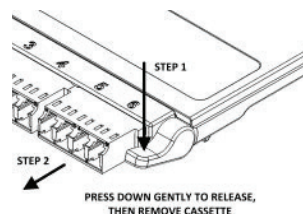

Figure 15
5.4.4 To Remove Press down on the release button and slide the cassette or adapter plate forward to remove (Figure 15).